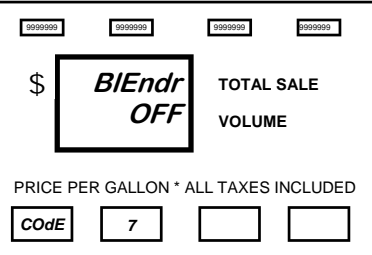

Figure 7.4
- Once the **ENTER** button has been pressed, the Blender option appears in the main display. The default setting is for no Blender. See Figure 7.4.